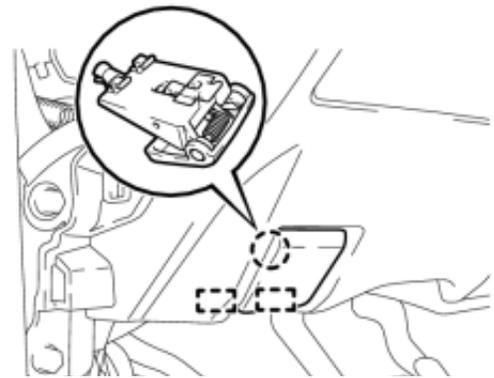

Fig. 3b
2. Disengage the hood release cable from the hood release latch handle. (Fig. 3b)